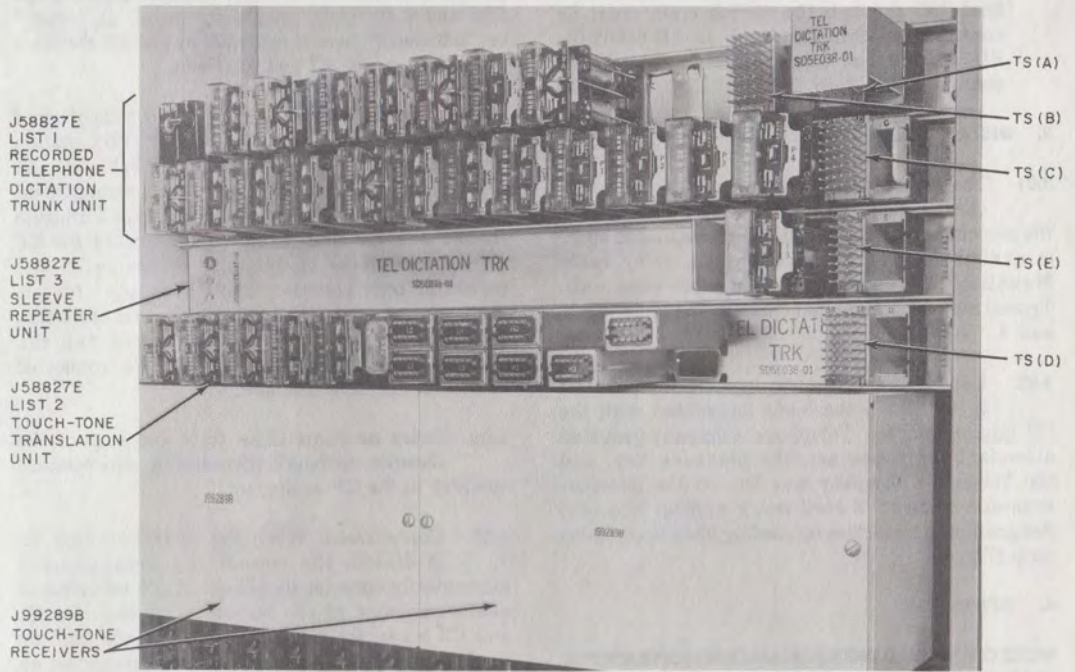

Fig. 4—Voice Connecting Arrangement DCT-Basic Unit with TOUCH-TONE® Translation Unit, TOUCH-TONE Receivers, and Sleeve Repeater Unit
- J58827E, List 2 TOUCH-TONE Translation Unit (Fig. 4)—required in addition to List 1 for TOUCH-TONE operation
- J58827E, List 3 2-Way Sleeve Repeater Unit (Fig. 4)—required when the recorded telephone dictation trunk unit is not located at the switching equipment and sleeve conductor resistance through the switch train between the trunk circuit and line finder is greater than 5 ohms (for SXS type PBX) **or** a cord switchboard unit is provided
- J99289A TOUCH-TONE Receiver Cabinet (Fig. 4)—arranged to mount two receiver assemblies
- J99289B TOUCH-TONE Receiver Assembly (Fig. 4—A-Type TOUCH-TONE receiver unit; one required per dictation trunk when TOUCH-TONE operation is provided)